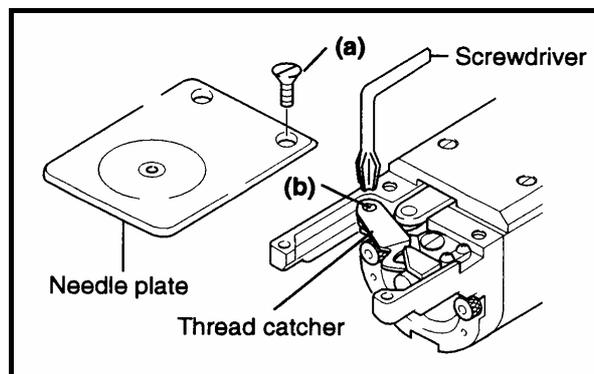

FIG.1
- (1) Remove the table set.
- (2) Remove two setting screws (a) and detach the needle plate. (Fig.1)
- (3) Remove set screw (b) and detach the thread catcher. (Fig.1)